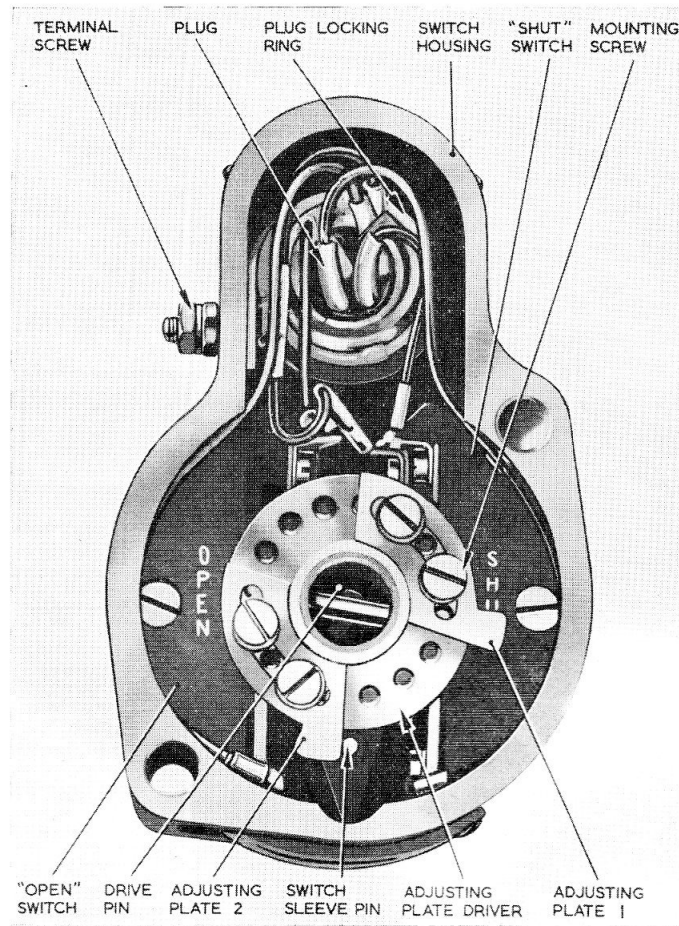
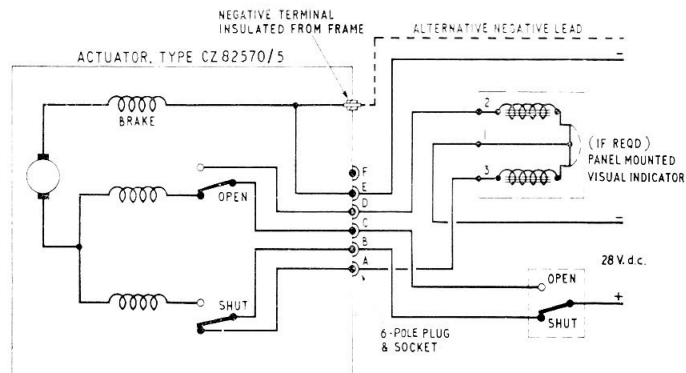

Fig. 5. End view of switch mechanism
Fig. 6. Circuit diagram
13. Consider an operating cycle to commence with the actuator in the position in fig. 6, i.e. in the "SHUT" limit condition. The motor is de-energized and the limit switch sleeve is held in its extreme right hand position by the left hand adjusting plate.
14. When the remote control switch is moved to "OPEN", the motor is energized via the normally closed contacts on the "OPEN" limit switch and the final gear rotates clockwise as seen (fig. 6).
The sequence of operations should be followed in conjunction with circuit diagram (fig. 6).
15. The adjusting plate driver, together with the adjusting plates, rotates clockwise with the final gear and releases the sleeve pin, the switch pin is then centralised by the scissor spring. The adjusting plate driver continues rotating until the right-hand adjusting plate strikes the sleeve pin. The sleeve pin moves to the left and rotates the limit switch sleeve into contact with the "OPEN" limit switch (fig. 5). The "OPEN" limit switch changes over, disconnecting the motor supply and closing the "OPEN" indicating circuit (fig. 6).
16. If now, the remote control switch is moved to "SHUT", the motor is energized via the normally-closed contacts on the "SHUT" limit switch (fig. 6) and the switch operating mechanism rotates anti-clockwise towards the
17. It can be seen from fig. 5 that the range of movement of the drive pin depends upon the positions of the adjusting plate on the adjusting plate driver. The range of movement is a minimum when both plates are so close as to be in permanent contact with the limit switch sleeve pin. In this case the amount of travel is that necessary for the switch sleeve to operate both switches, i.e. 30 degrees mechanical inclusive. On the other hand with the adjusting plates moved to the opposite extreme, maximum travel is obtainable.